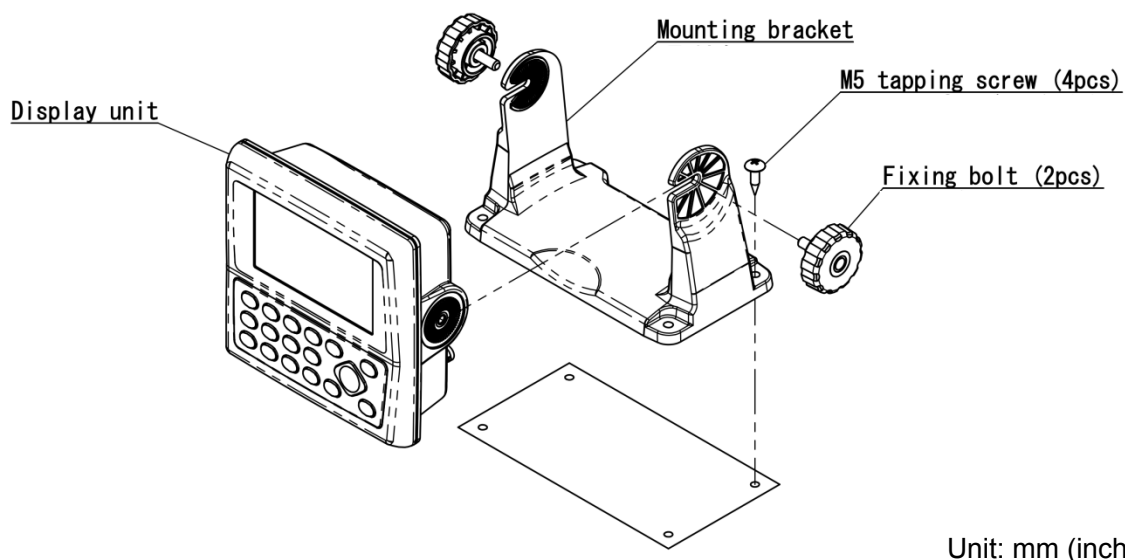

Figure 7.1 Fitting detail of KGP-915 in table mounting mode
The display unit is designed for table mount and flush mount. Refer to Figure 7.1, 7.2 or 7.3 for installation.
- (1) Remove the two knurled fixing knobs that fix the display unit to the mounting bracket.
- (2) Remove the display unit from the bracket and place it on a flat and safe area.
- (3) Place the mounting bracket to the place where the display unit is to be installed, and fix the bracket with four tapping screws.
- (4) Reset the display unit on to the bracket and fix it using the two knurled fixing knobs that were removed in step (1). Refer to Figure 7.1 for detail.